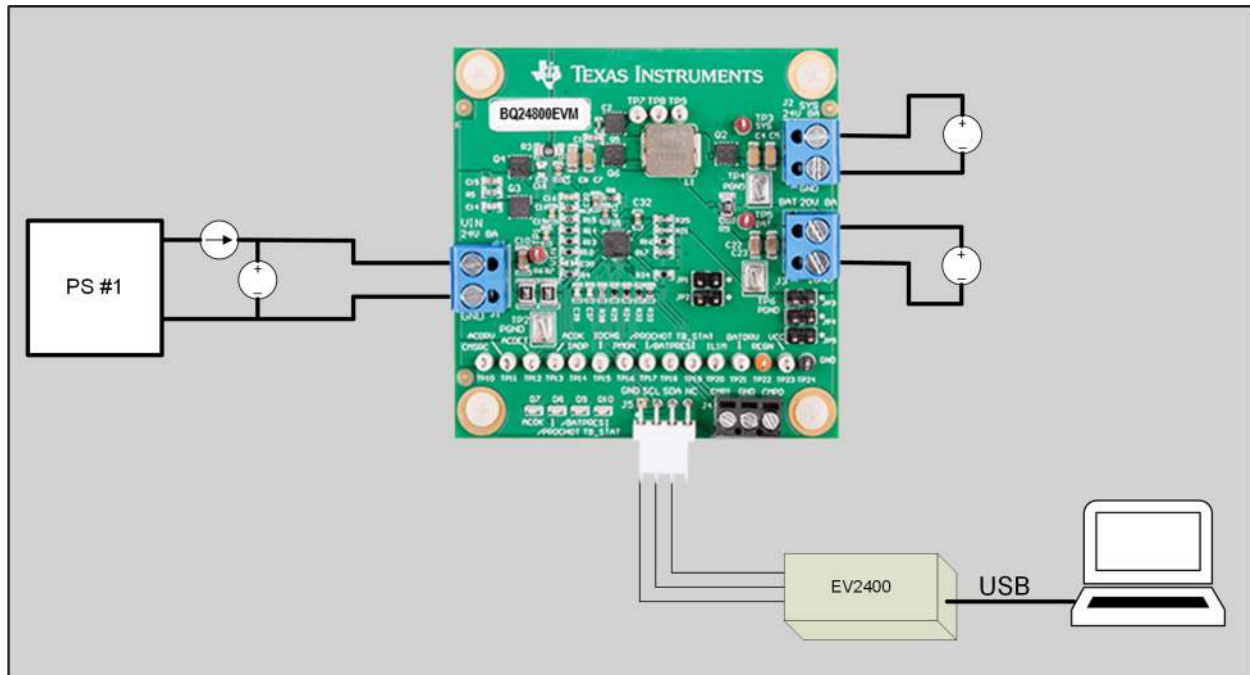

Figure 2. Original Test Setup for BQ24800 EVM (BMS031)
- Connect J5 (SDA, SCL, GND) to the EV2400 kit *SMB* port. Refer to Table 4 for EVM connections. Connect the USB port of the EV2400 kit to the USB port of the computer. The connections are shown in Figure 2.
After completing the previous steps, the test setup for BMS031 appears as shown in Figure 2.